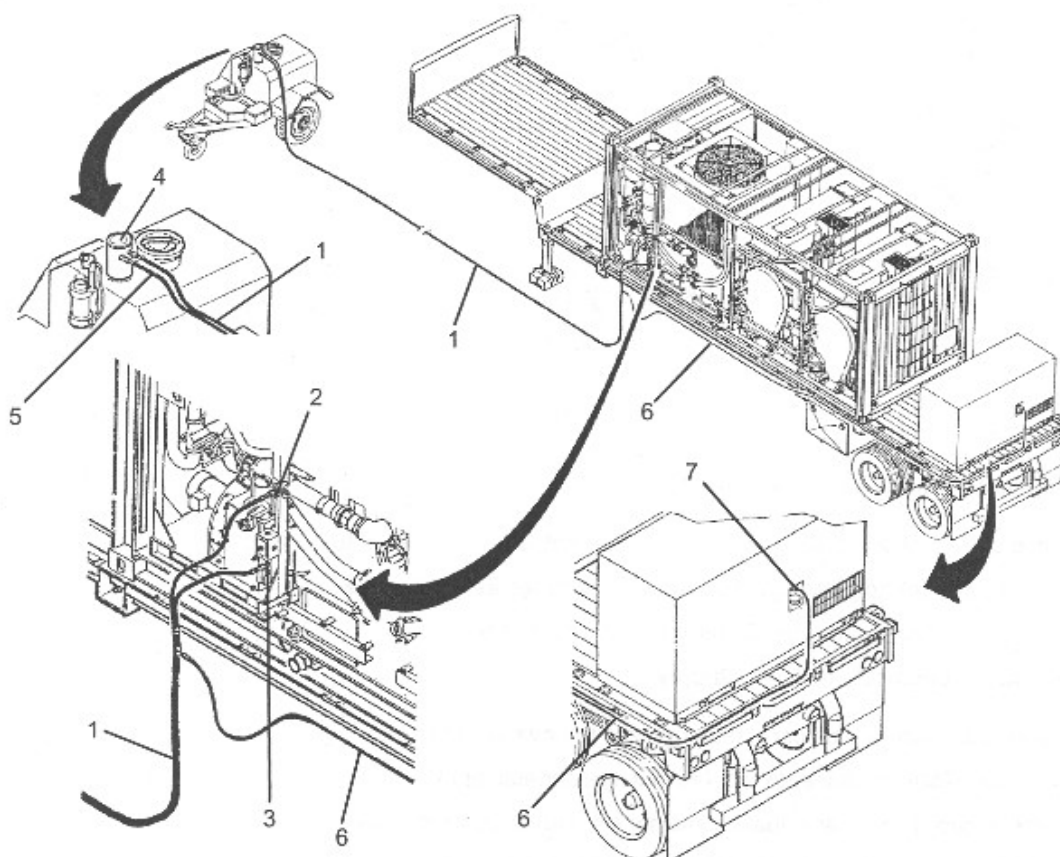

Figure 3-46
1. Connect fuel hose (1) at inlet port (2) and outlet port (3).
2. Roll out and route fuel hose (1) towards fuel supply.
3. Insert and secure fuel probe (4) at fuel supply.
4. Connect fuel hose (1) with direction arrow (5) to supply port on fuel probe (4).
5. Connect return half of fuel hose (1) to return port on fuel probe (4).
6. Connect fuel hose (6) to adapter (7).
7. Connect adapter (7) to MEP--805A generator (TM 9--6115--644--10).
8. Roll out and route fuel hose (6) towards fuel hose (1) along side of M871 trailer.
9. Connect fuel hose (6) to fuel hose (1). (See Figure 3-46)